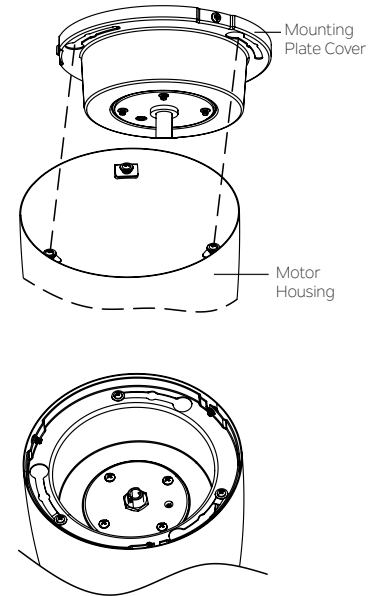

Fig. 12b
Step 2. Twist the motor housing clockwise until three screws lock at the end of the slotted holes. (Fig. 12b)